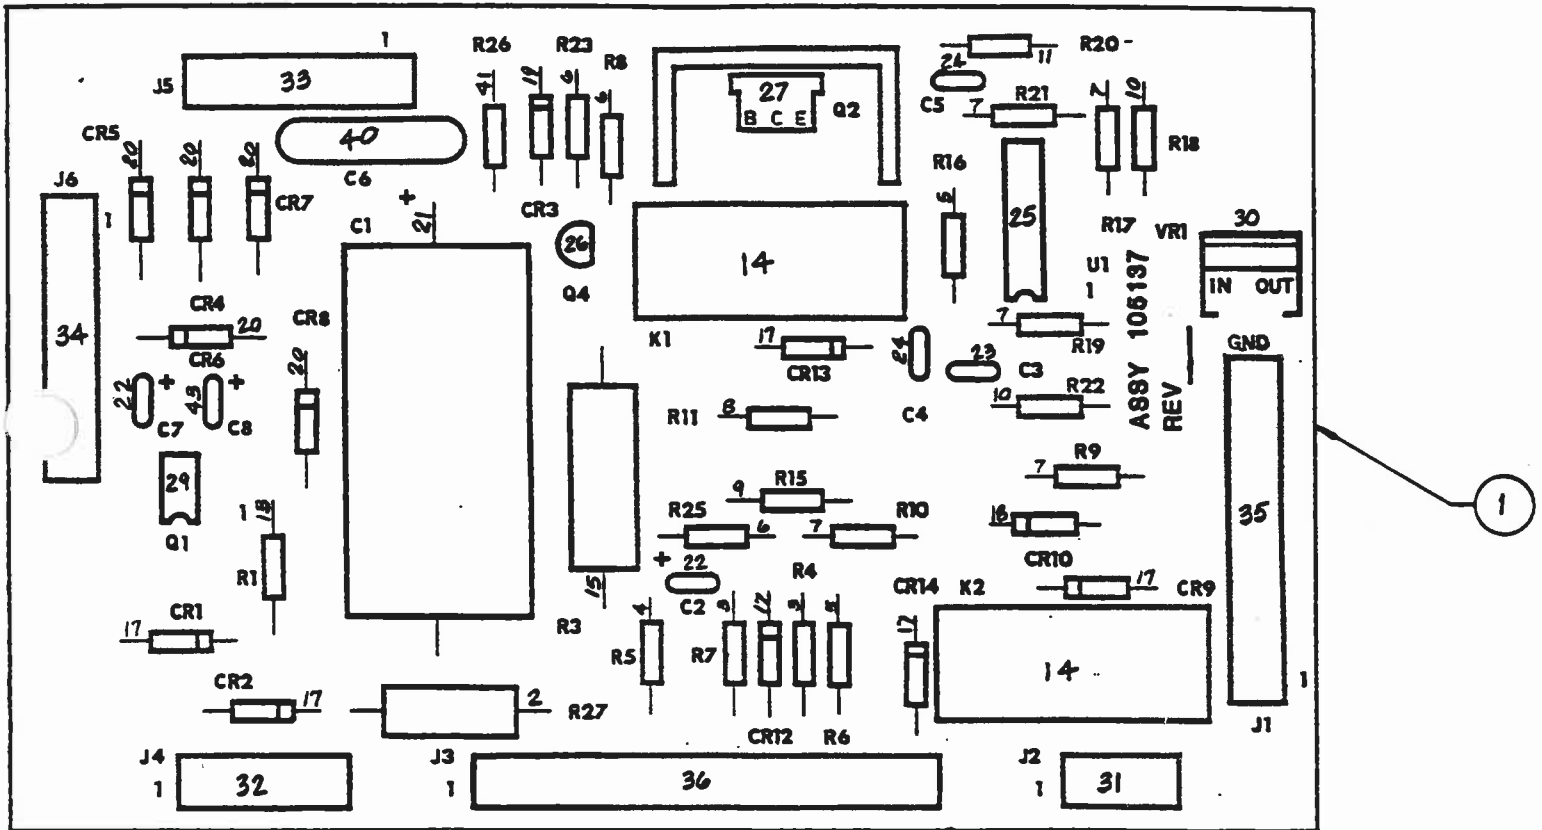

Figure 4.6, Motor Drive PCB Assembly, PDI/E
* SEE SEPARATE PARTS LIST FOR INDIVIDUAL COMPONENT BREAKDOWN AND SCHEMATIC, FIGURES 4.6 AND 4.7.